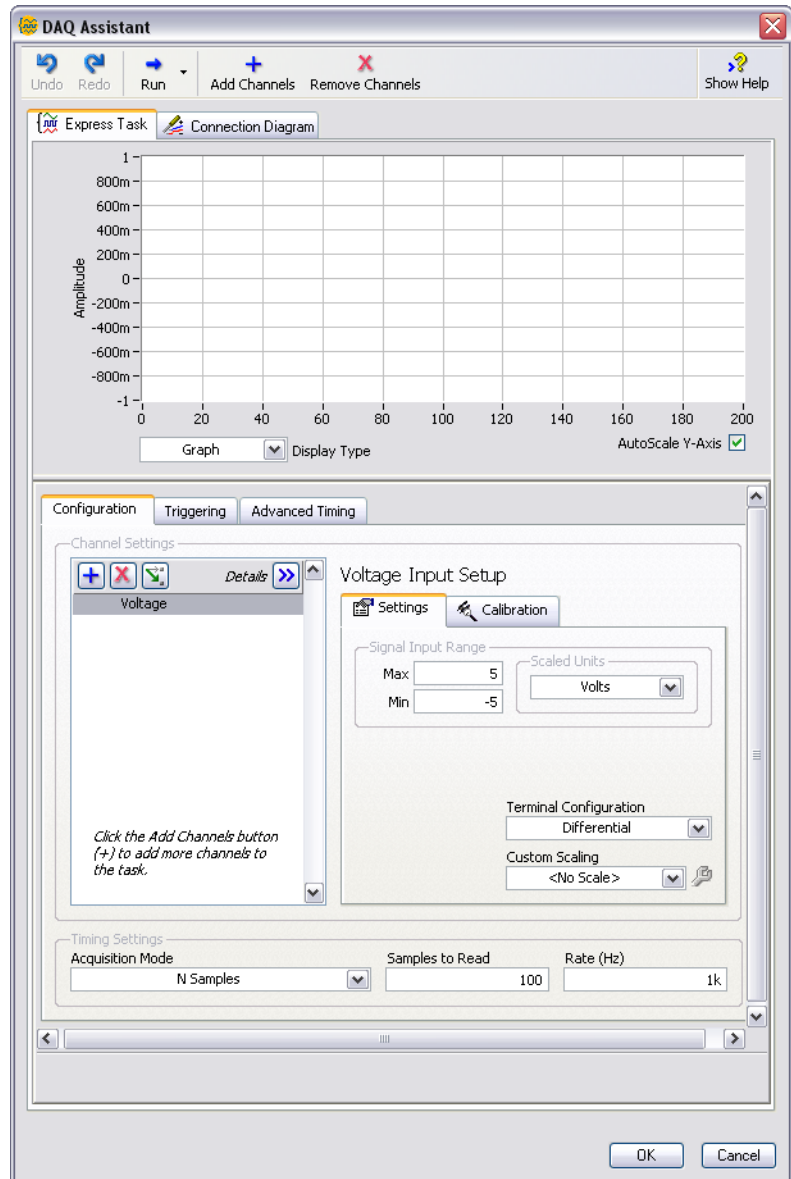

Figure 4-1. Configuring a Task Using the DAQ Assistant
6. In the **Supported Physical Channels** list, select the physical channel to which the device connects the signal, such as **ai0**, and then click the **Finish** button. The DAQ Assistant opens a new dialog box, shown in Figure 4-1, that displays options for configuring the channel you selected to complete a task.